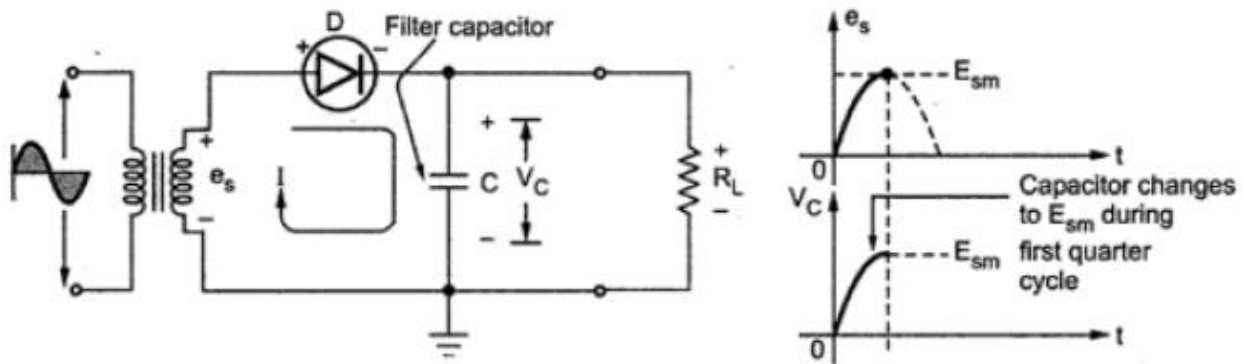

Fig. 1.36 Operation of capacitor Input filter
- The Fig. 1.36 shows a half wave rectifier with a capacitor input filter.